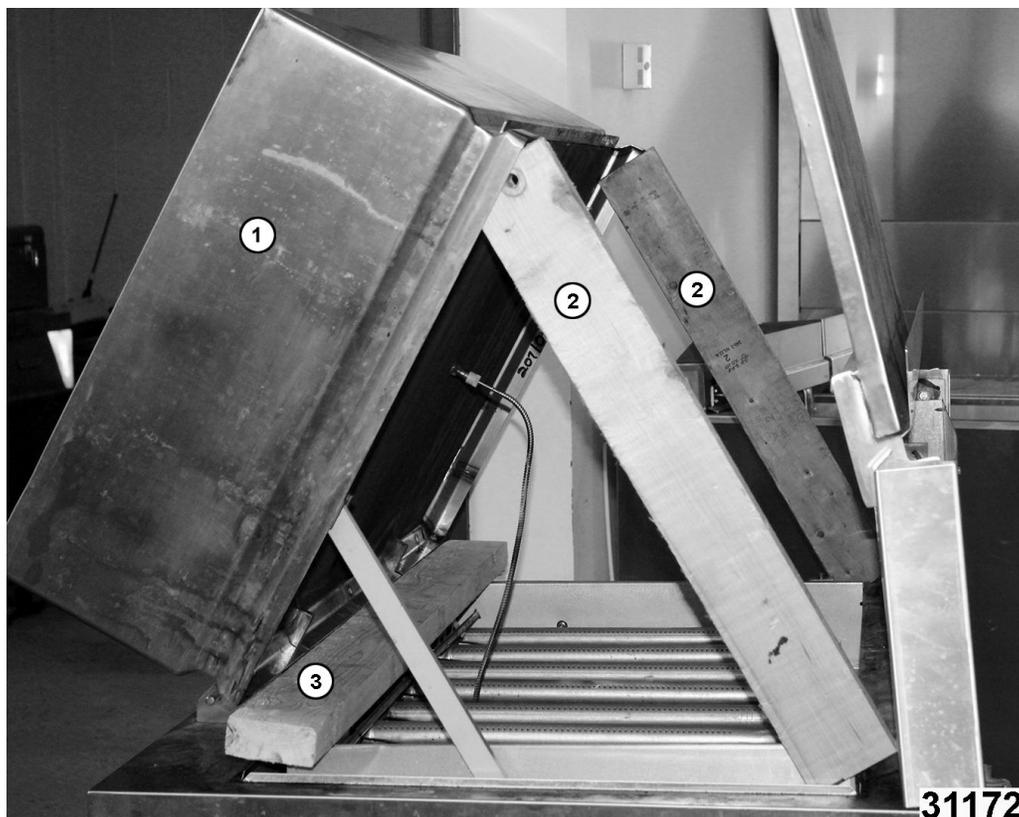

Fig. 36
- A. Block braising pan (1, Fig. 36) with two 26" long wood blocks (2" x 4") (2, Fig. 36), one at each end.
- B. Place 2"x4" wood block, 48 inches long, (3, Fig. 36) across front of braising as shown.